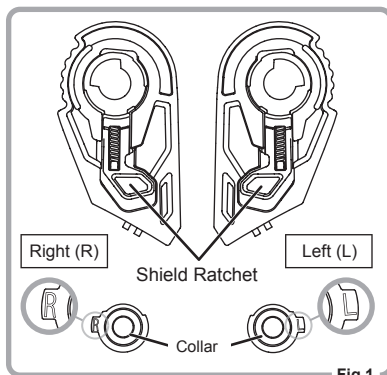

Fig.1
2. Turn the Collar Screw on the Shield Ratchet counterclockwise using a M4 (4mm) hex wrench and remove the Collar Screw and the collar. (Fig.1)
1. Check the side of the Shield Ratchet (Fig.1)
2. Place the hook of the Shield Ratchet (L) in the hole on the left side of the Chin Cover and attach the collar (L).